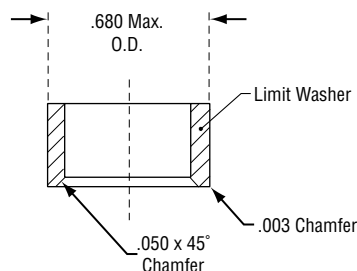

Figure 19
B. *For bellows valves, the limit washer must also be chamfered on the lower O.D. as shown in Fig. 19.*